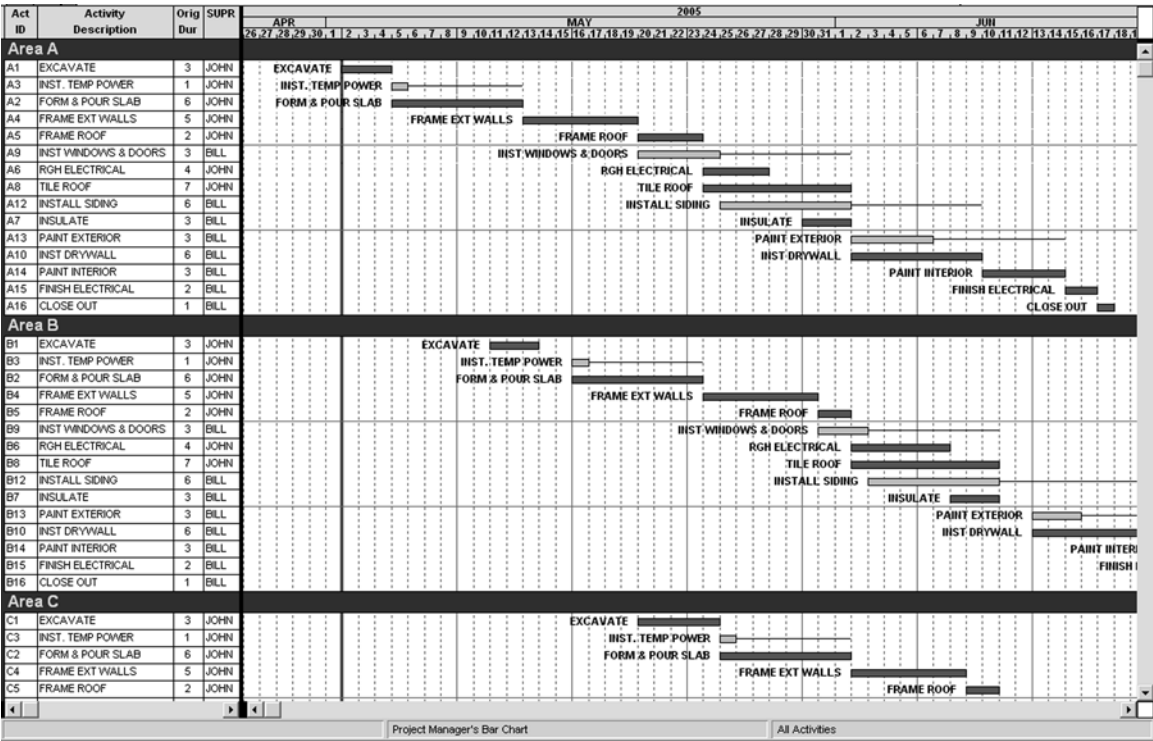

FIGURE 20.27 Warehouse schedule consisting of three areas
12. Because *Tile Roof* is the critical activity with the longest duration, use it as the staging activity and make a start-to-start relationship between the first activity (*Excavate*) of the prior area (A) to the first activity (*Excavate*) in the next area (B) with a start-to-start lag equal to the duration of *Tile Roof*, 7 days. Then do this from *Excavate* in area B to *Excavate* in area C and recalculate the schedule.
- Notice all the float in Warehouse A? That is because, as it is currently scheduled, Area A does not need to finish until Area C is finished. If the management team desires to close out each area as soon as possible and not have that much float, put a finish-to-finish relationship with a lag of 7 days between *Close Out* in each area. Recalculate the schedule to show the new dates. The schedule should appear similar to Figure 20.27.